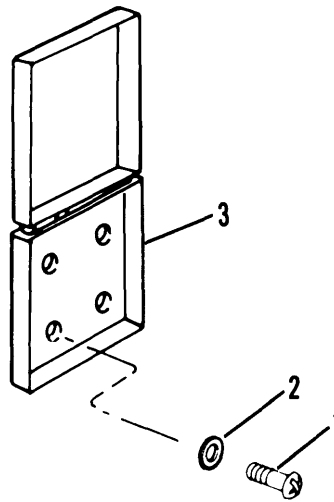

Figure 4-63. Document Box
(1) Remove four screws (1, fig. 4-63) and washers (2) .
(1) Place document box (3, fig. 4-63) into position.